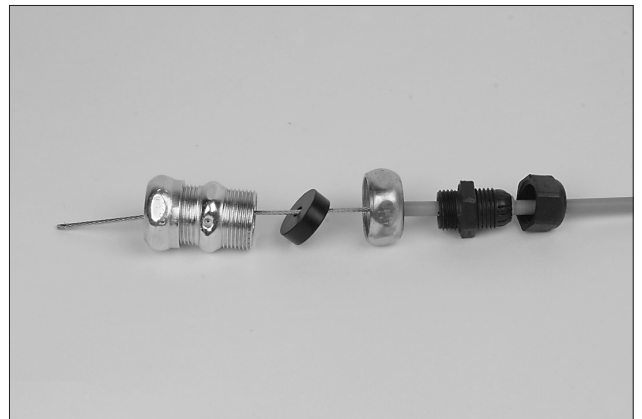

FIGURE 4-69
2. Install strain relief nut, strain relief, compression union nut, flexible conduit insert and compression union over the flexible conduit with wire rope installed. See Figure 4-69.